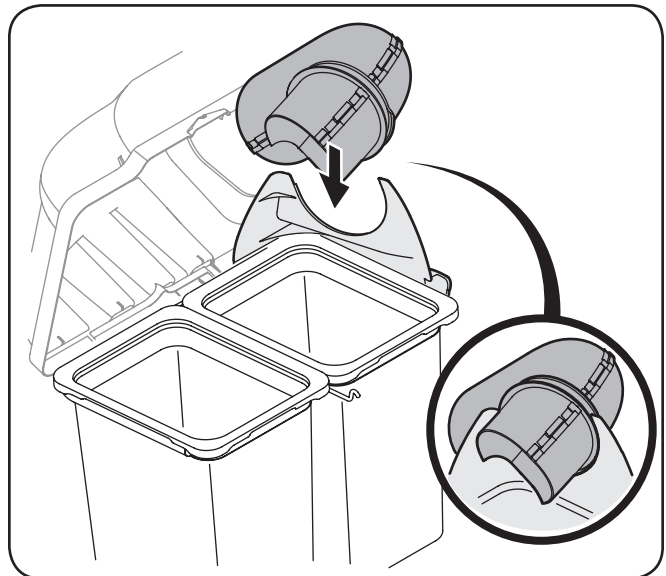

Figure 4-27
8. With the bagger cover open, pivot the upper chute tube into position so that the chute rests in the upper chute support. See Figure 4-27.